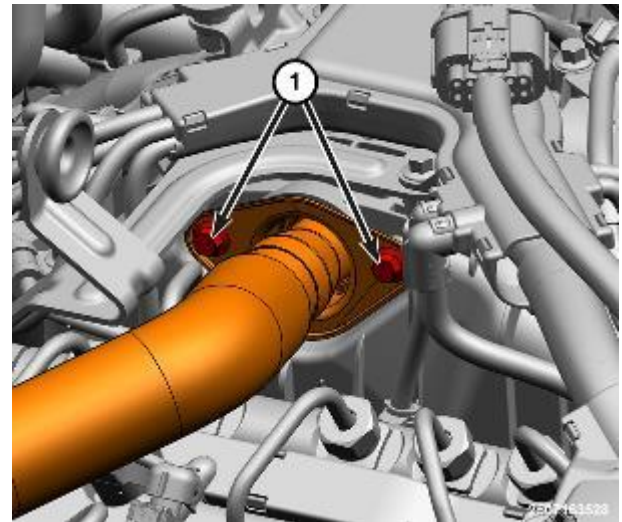

Figure 103 – Upper EGR Tube
- 19. Remove the upper Exhaust Gas Recirculation (EGR) tube bolts (1) (Figure 103).